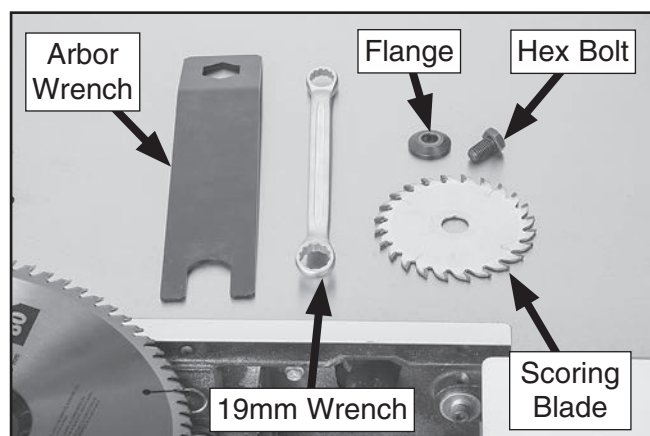

Figure 88. Scoring blade, flange, arbor hex bolt, 19mm wrench, and arbor wrench.
6. Unthread arbor hex bolt counterclockwise (left-hand threads), and remove arbor hex bolt, flange, and blade (see **Figure 88**).